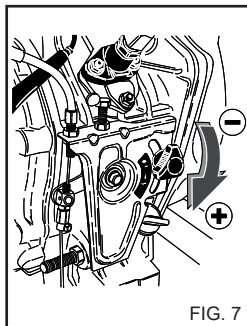

FIG. 7
1) Place the petrol tap lever in the open ON position (fig. 7).
b) Place the fuel pump lever in the closed OFF position (fig. 7).